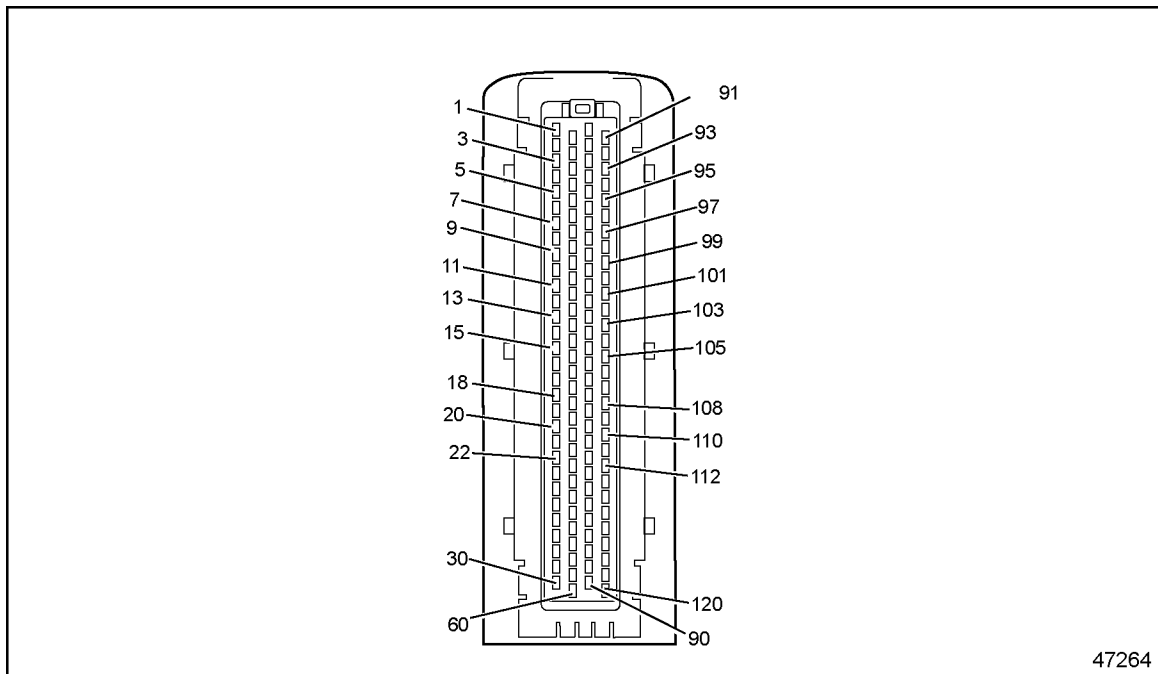

Figure 14-1 **120-pin MCM Connector**
- [b] If the resistance is less than 5Ω , repair the short between pins 55 and 108 of 120-pin MCM connector. See Figure 14-1. Refer to section 14.3.1.1.